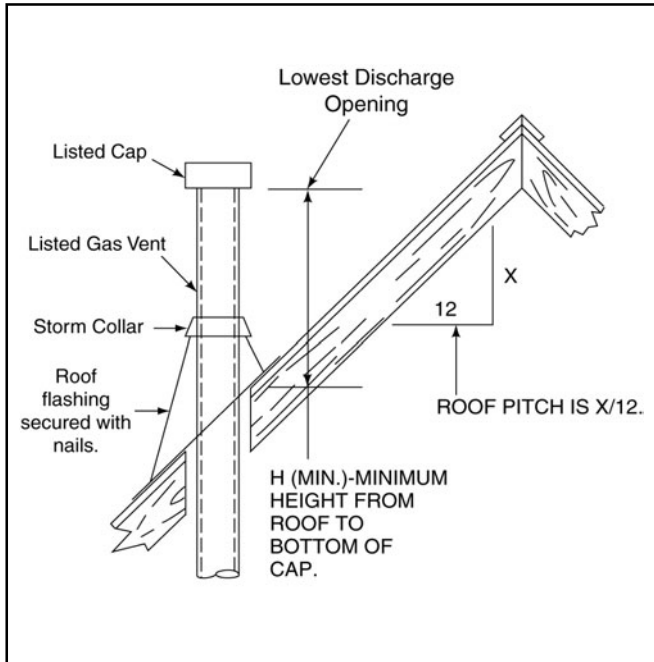

Figure 12 - Vent Height for Vertical Termination
- c. Install an adequate length of rigid B-Vent pipe into the roof support to provide the minimum height from the roof to the bottom of the cap as shown in Figure 12 and Table 1. Secure the rigid pipe in the roof support.
Figure 12 and Table 1 specify minimum vent heights for various pitched roofs.